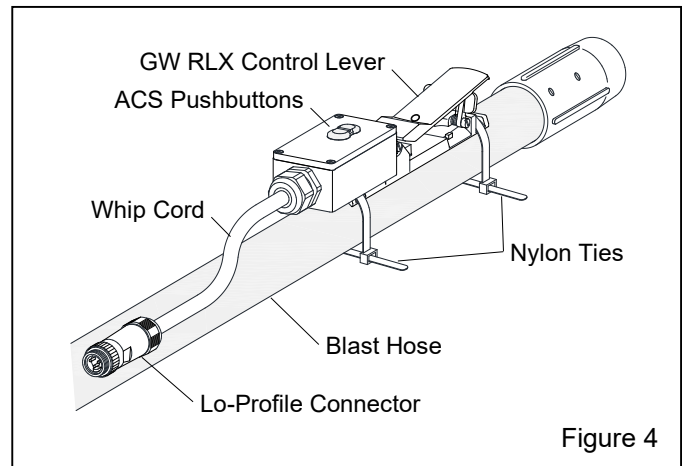

Figure 4
2.5.1 Band the electric control handle to the blast hose at a comfortable location behind the nozzle holder, as shown in Figure 4. Use the two nylon ties provided or similar means to secure the control handle to the hose. Once the control is firmly attached, clip the tie ends so they do not snag the operator's clothing or interfere with the operation of the control handle.